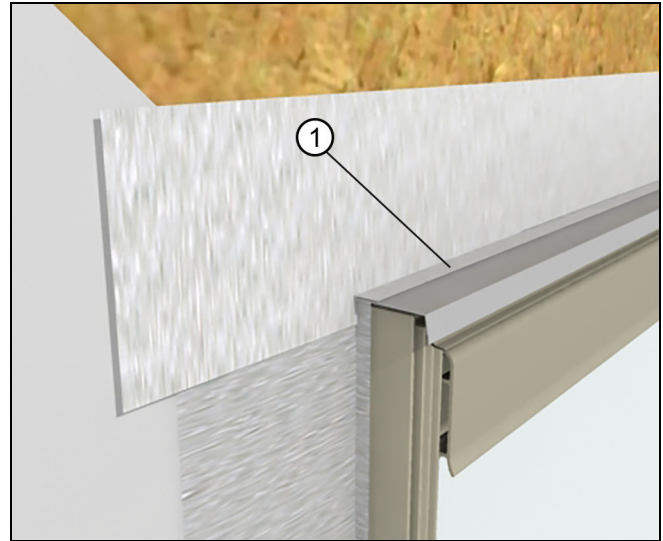

Figure 37
4. Install a layer of flashing over the vertical leg of the rigid head flash and lapped onto the horizontal leg. The flashing should extend past the jamb flashing installed earlier. See Figure 37.